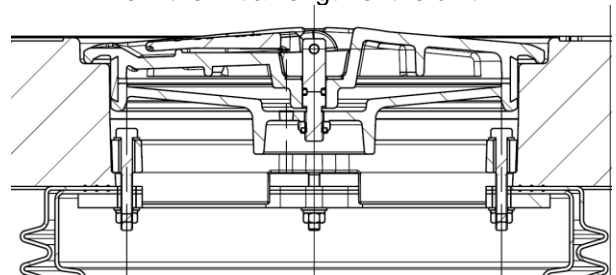

Figure 47
65. Using 209398 rings attach upper ring of spill containers to 209398 rings using 5/16 bolts, washers, lock washers, and nuts. Tighten bolts and nuts to 15-20 in-lbs. See Figures 47 thru 49. **Note:** The containment bucket height can be adjusted by  $\pm 1.5"$ . The adjustment should not be more than 1.5" from the initial length of the unit.